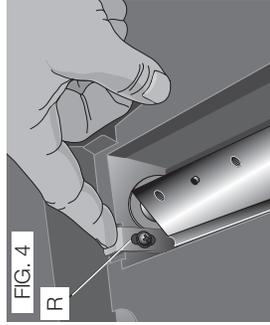

FIG. 4
If the eight screws in the cutter head clamp are not visible, use a piece of scrap wood to carefully rotate the cutter head (Fig. 4) until the screws are accessible and the cutter head lock lever (R) engages. This will prevent further rotation of the cutter head as you change the knives.
1. Depress the cutter head lock lever (R) as shown in Figure 4.